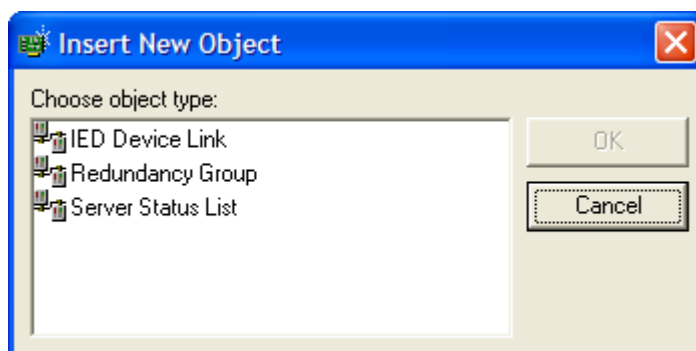

Figure 9 - Insert New Object Window
The **Insert New Object** window (Figure 9) displays a different set of options depending on the type of object selected and the types of objects already configured under it.
2. The **Insert New Object** window (Figure 9) appears.